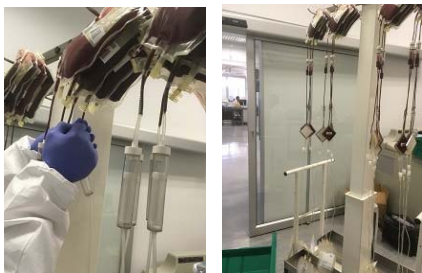

Figure 5
2. Hang the blood bag (Figure 5).